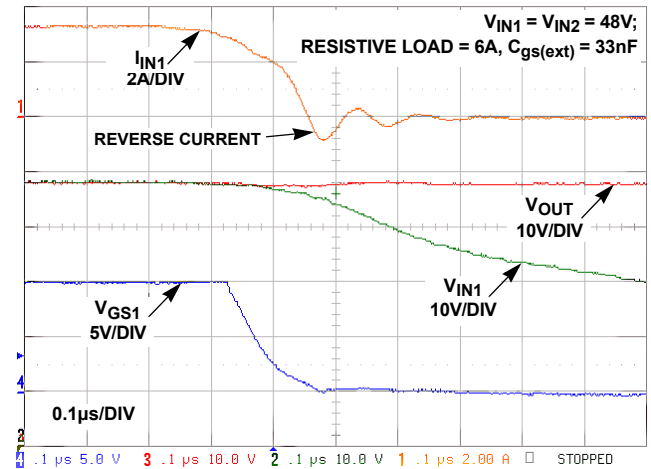

**FIGURE 21. FAST SPEED TURN-OFF (MOSFET WITH QTOT = 8.4nC)**
tDELAY(HS) is the High Speed Comparator internal worst-case time delay. The setup in Figure 17 can be used to perform the Input dead-short test; a pulse generator is connected between Gate-Source of QSHORT1 (use pulse mode single shot, set the frequency to <10Hz and pulse width of approximately 10ms, trISE = 1µs). Follow steps 1 through 5 in the two feed parallel operation section. Make sure that both feeds operate in parallel current sharing mode. Proceed with the short test by applying the single pulse to the gate of QSHORT1. Once turned on, QSHORT1 shorts VIN1 causing it to fall quickly (in less than 10µs). Figures 21, 22 and 23 show the results for different combinations of CGS1 and load current. Make sure to connect the VIN1 shorting-MOSFET terminals as close as possible to the VIN-GND (J4 to J6) terminals on the EVAL board to minimize lead impedance and reduce parasitic ringing.